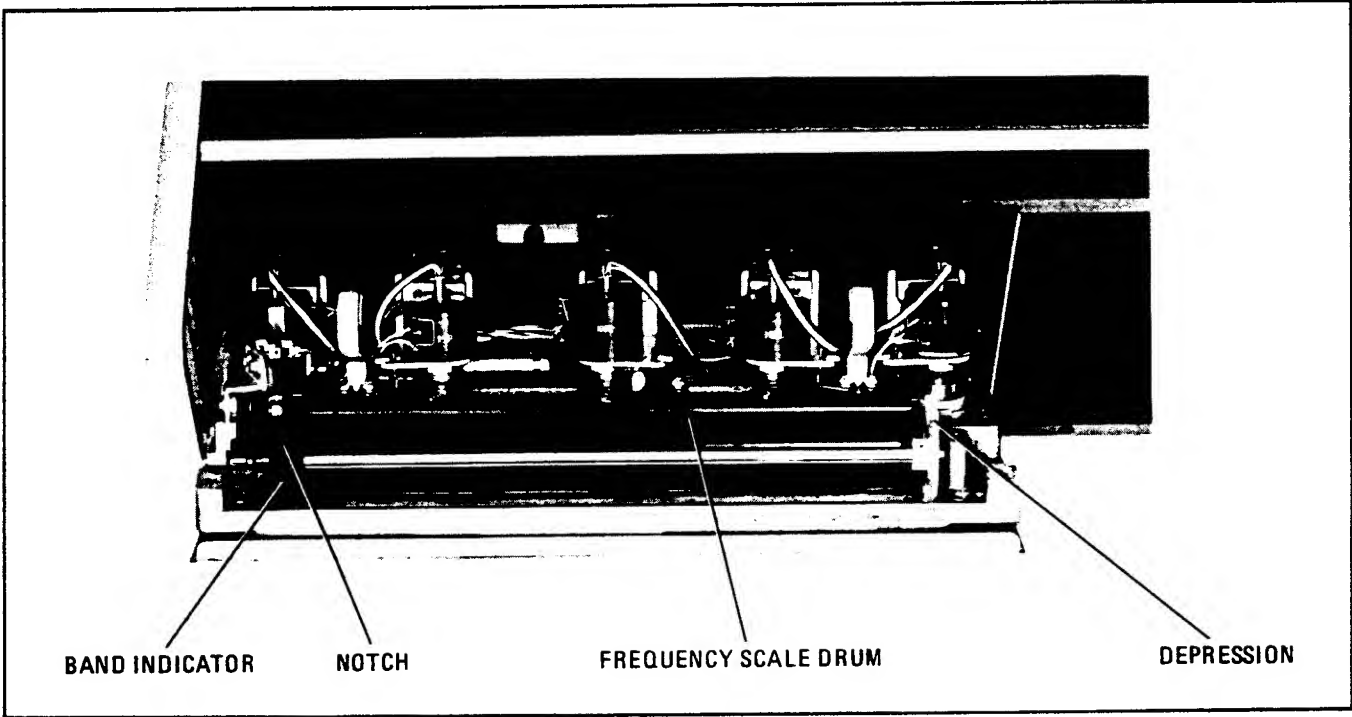

Figure 2-5. Mainframe Front Panel in Open Position
- b. Swing front panel forward and down to position shown in Figure 2-5.
- d. Insert frequency scale so key (a 1/16-inch long, 1/2-inch wide protrusion) on left end of scale fits into notch, shown in Figure 2-5 in roller on left-hand edge of drum.